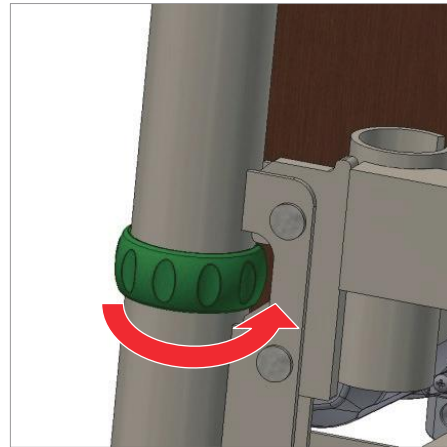

Figure 4: Collar locked
9. Rotate the locking collar to cover the label (*Figure 4*). Repeat both sides.
13. Rotate the locking collar to cover the label (*Figure 4*). Repeat both sides.